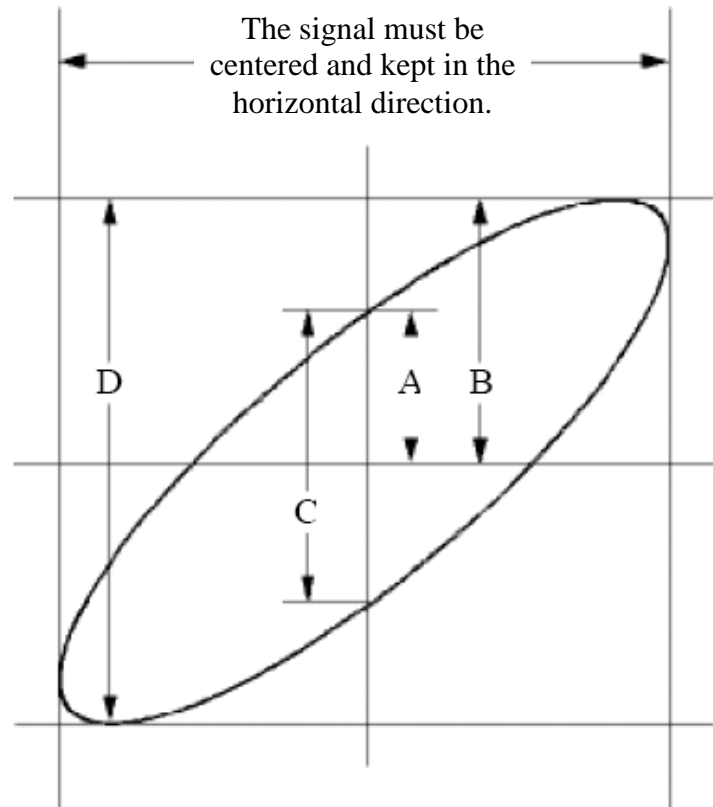

Figure 8-6 Lissajous Graph
- (1) Set the probe menu attenuation coefficient for **10X** and that of the switch in the probe for **10X** (see "*How to Set the Probe Attenuation Coefficient*" on P12).
- (2) Connect the probe of channel 1 to the input of the network and that of Channel 2 to the output of the network.
- (3) Push the **Autoset** button, with the oscilloscope turning on the signals of the two channels and displaying them in the screen.
- (4) Turn the **Vertical Scale** knob, making the amplitudes of two signals equal in the rough.
- (5) Push the **Display** button and recall the Display menu.
- (6) Select **XY Mode** in the bottom menu. Select **Enable** as **ON** in the right menu. The oscilloscope will display the input and terminal characteristics of the network in the Lissajous graph form.
- (7) Turn the **Vertical Scale** and **Vertical Position** knobs, optimizing the waveform.
- (8) With the elliptical oscillogram method adopted, observe and calculate the phase difference (see *Figure 8-6*).